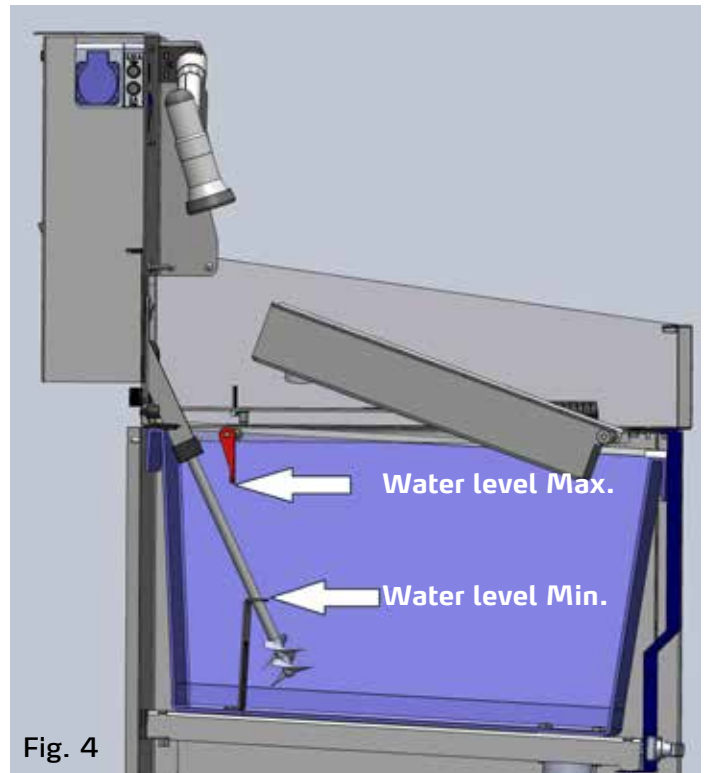

Fig. 4
- Clean rollers in the roller prewash basin (scope of delivery in ColorFree top Set) (9) Fig. 4
Before the washing water can be treated during further operation, a minimum water level must be available (water level Min.) Fig. 4.
See figure 4. The tank with the mounting brackets (9) is placed at an angle of about 20° diagonally on the mounting spigots.